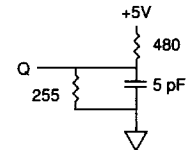

Fig. 2 OUTPUT LOAD EQUIVALENT
6. t_{HZCE}, t_{HZOE} and t_{HZWE} are specified with CL = 5pF as in Fig. 2. Transition is measured ±500mV from steady state voltage.